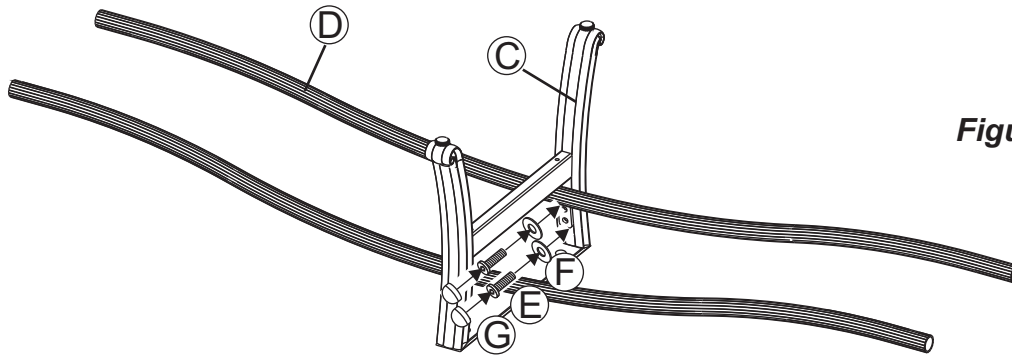

Figure 1
Place the table rim (without glass) upside down on a flat, non-abrasive surface. Attach a table leg to the table rim by using the bolt and washer as shown in **Fig.1**. Guide the bolt through the hole in the table leg, into the pre-drilled hole in the table rim. **Hand tighten only 2-3 turns**. Repeat for the other three legs.
- 1 Attach a leg connector bar to the middle leg by using the bolts and washers as shown in **Figure 1**. Guide the bolts through the holes in the leg connector bar, into the pre-drilled holes in the middle leg. **Hand tighten only 2-3 turns**. Repeat for the other leg connector bar.